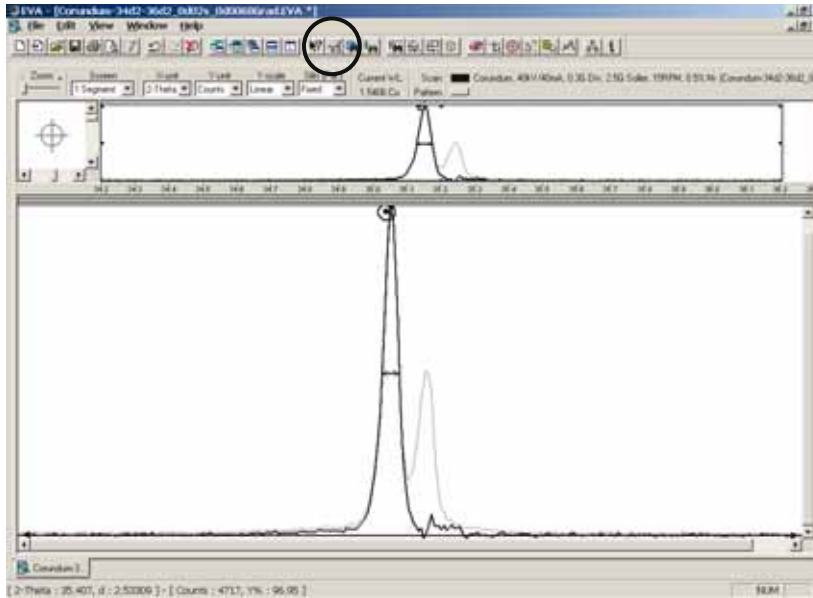

Figure 10.5 EVA Main window
2. Use the Area function in the EVA toolbox to create an area measurement using the complete measured range (see Figure 10.5). Use the mouse to select the range.